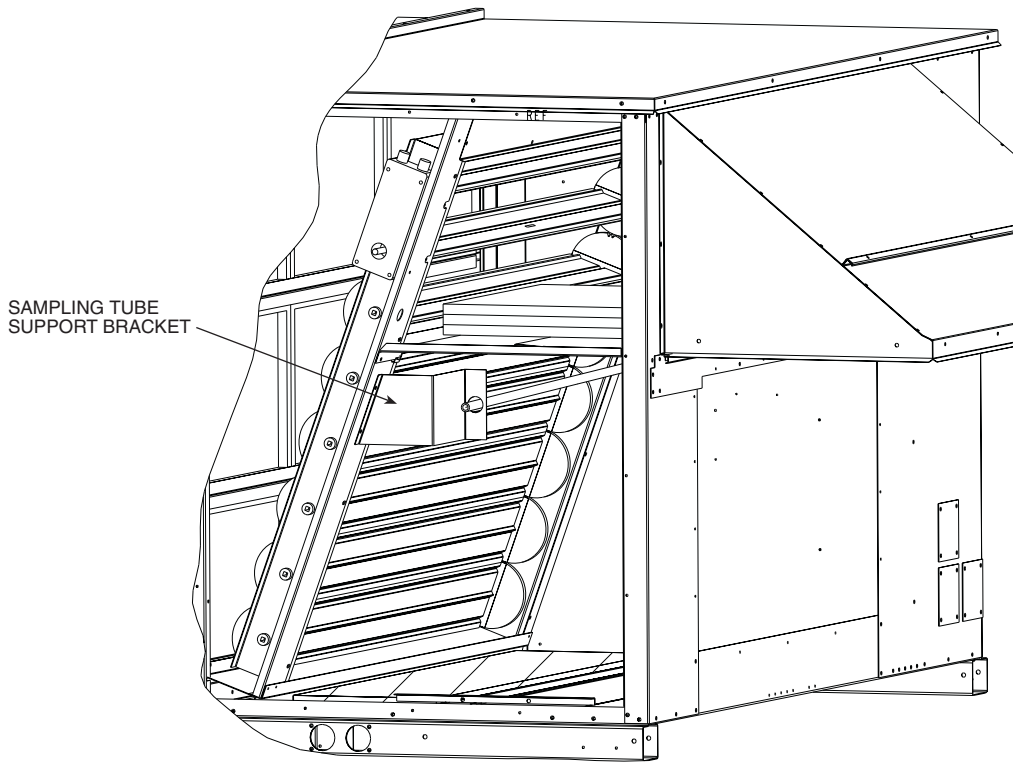

Fig. 4 — Sampling Tube Support Bracket
11. Mount the sampling tube support bracket to the cross member with two ¹/₄AB-14 ⁵/₈-in. screws as shown in Fig. 4. Insert large snap bushing into hole in bracket.